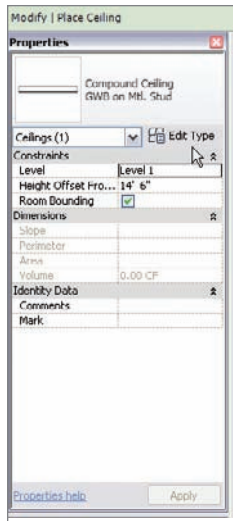

FIGURE 9.17 Clicking the Edit Type button after choosing the GWB On Mtl. Stud ceiling type
3. In the Change Element Type menu, select **GWB On Mtl. Stud.** To the right and below the picture of the ceiling is the **Edit Type** button. Click it (see Figure 9.17).